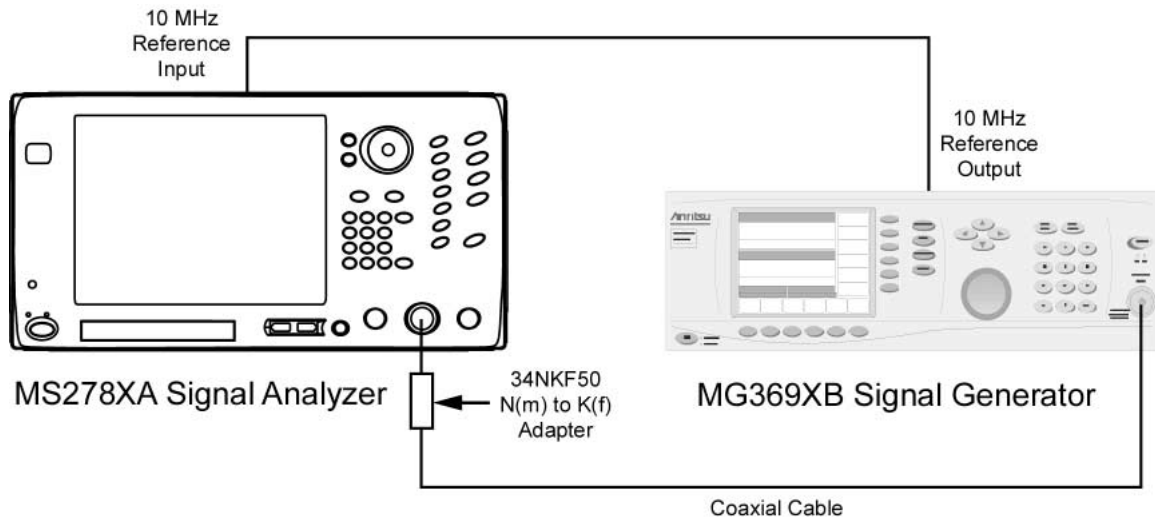

Figure 6-44. Equipment Setup for Single Sideband Phase Noise Test
- Step 1.** Set up the instrument as shown in Figure 6-44.